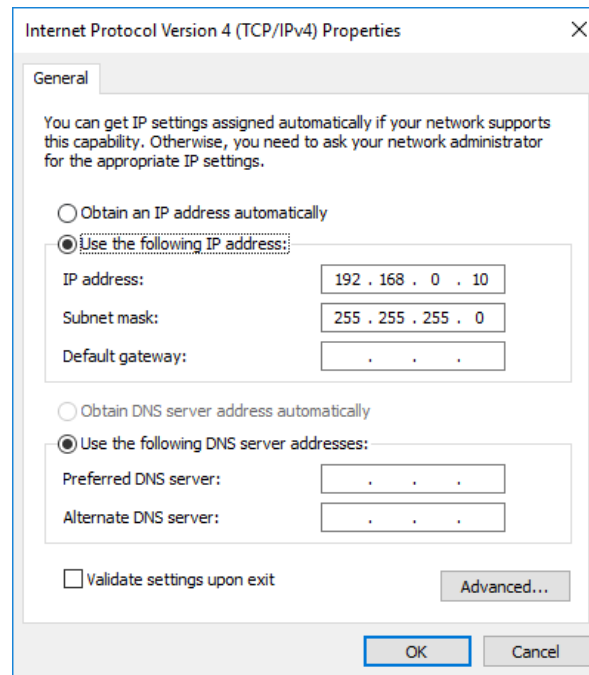

Figure 111: Setting a Static IP Address
7. Click **OK** to confirm your changes (Figure 111).